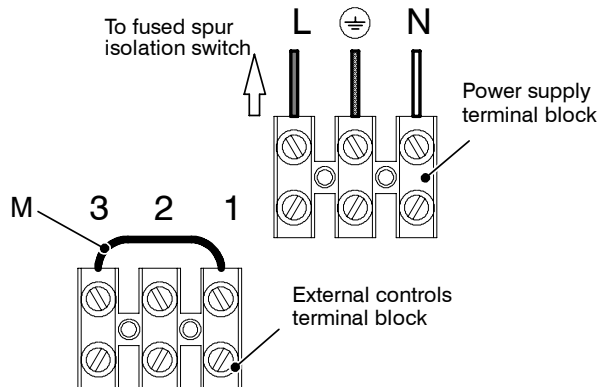

Fig. 6.13
- 6 Connect the electrical supply flexible cord coming from the fused spur isolation switch to the power supply terminal block of the boiler (Fig. 6.13) keeping the same connections for the live (brown wire) and the neutral (blue wire). External 3 A fuse or fused plug with same current rating is recommended.
**When connecting any type of external control, the link M in Fig. 6.13 must be removed.**